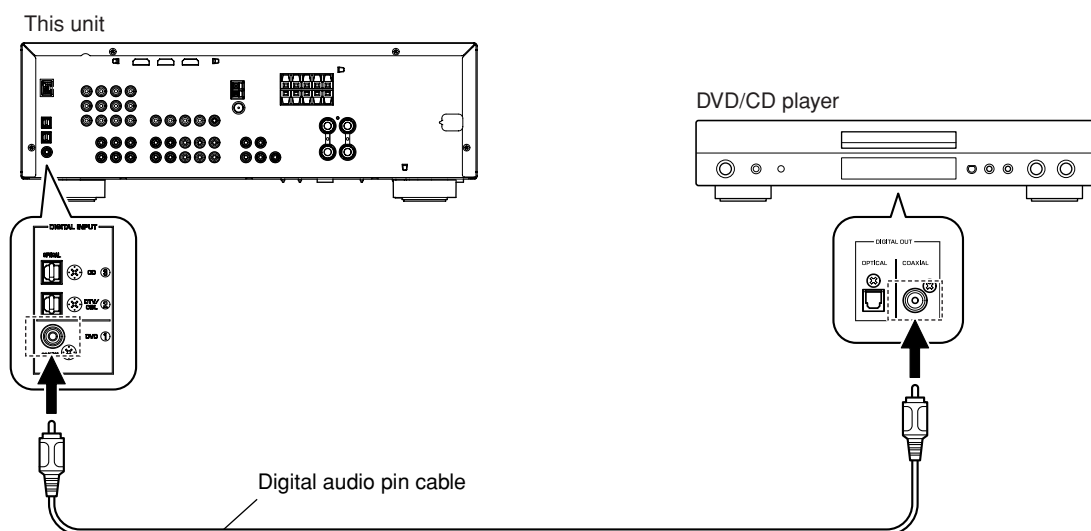

Fig. 1
1. Connect this unit and DVD/CD player as shown below. (Fig. 1)